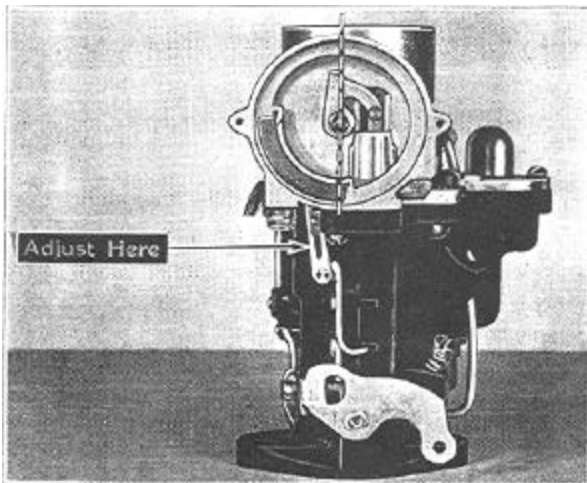

Figure 418
(82) Adjust length of fast idle link to pull fast idle block free of throttle adjusting screw point when piston lever on choker shaft is in line with center marking on housing (Figure 418). Lower edge of choker valve in this position is 7/16" from inner wall of air horn. Length of fast idle link may be varied by opening or closing crimped portion, (Figure 418), on 1936 models or bending the link on 1934 and 1935 models. In most cases this will not be necessary as the metal is rigid and factory settings will not be altered.